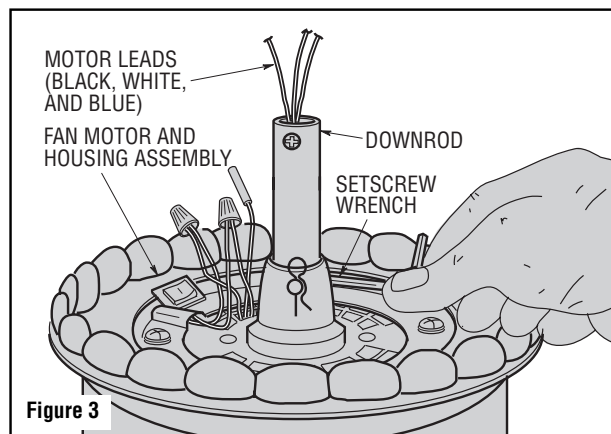

Figure 3
4. Align the clevis pin holes in the downrod with the holes in the motor coupling. Install the clevis pin and secure with the hairpin clip (Figure 3). (Pin and clip are supplied in loose parts bag.) The clevis pin must go through the holes in the motor coupling and the holes in the downrod. Push the straight leg of the hairpin clip through the hole near the end of the clevis pin until the curved portion of the hairpin clip snaps around the clevis pin. The hairpin clip must be properly installed to prevent the clevis pin from working loose. Pull up on the downrod to make sure the clevis pin is properly installed.
It is critical that the clevis pin in the motor coupler is properly installed and the setscrew securely tightened. Failure to verify that the pin and setscrew are properly installed (as shown in Figure 3) could result in the fan falling.
5. Install the setscrew (supplied) in the motor coupling (Figure 3). While pulling up on the downrod, tighten the setscrew using the setscrew wrench (supplied).